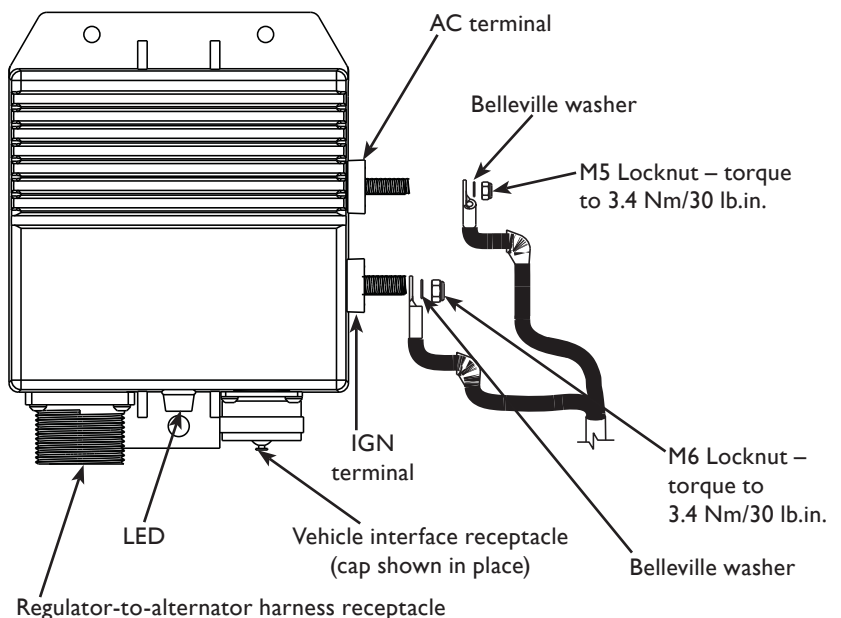

Figure 4 – N3240 Regulator Wiring Connections
- Connect wiring to IGN and AC terminals as shown in Figure 4.